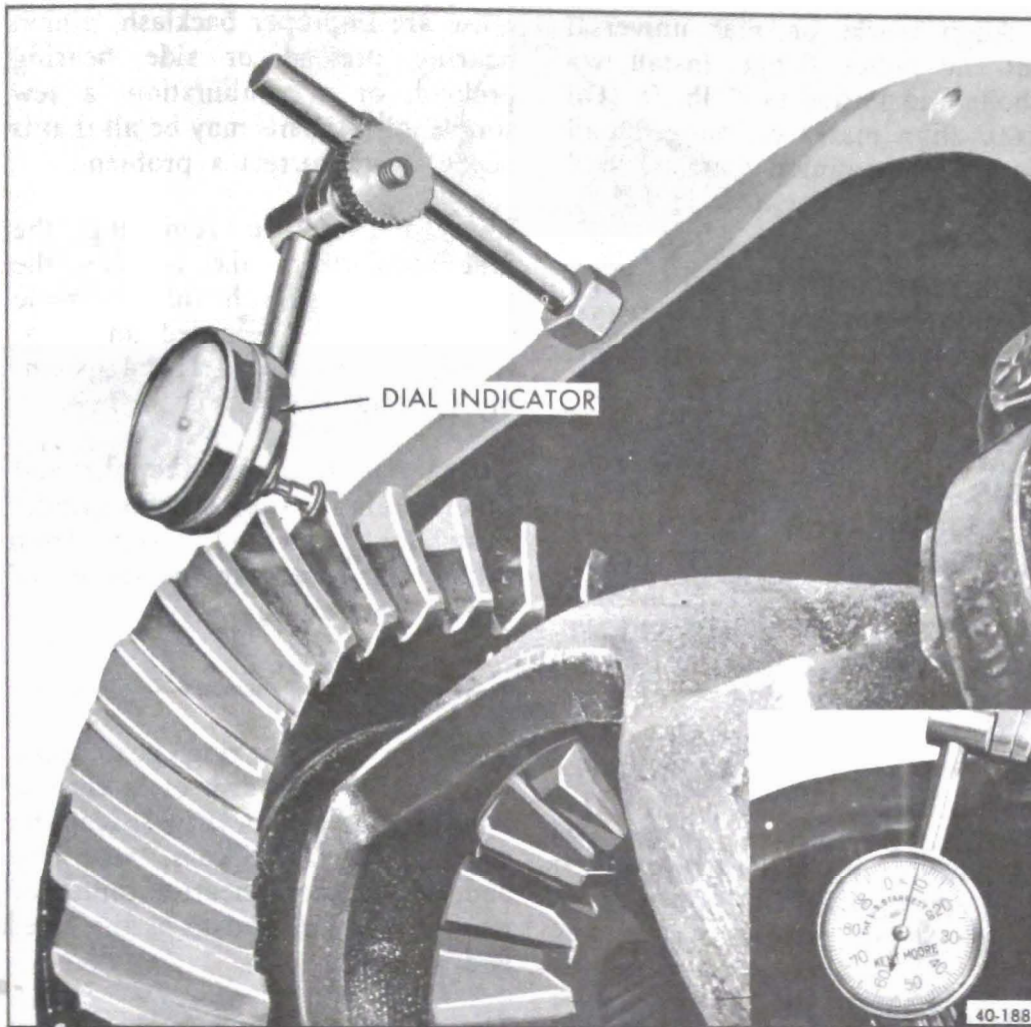

Figure 40-157 Checking Ring Gear to Pinion Backlash
1. Mount dial indicator as shown in Figure 40-157. Use a small button on indicator stem so that contact can be made near heel end of tooth. Set dial indicator so that stem is as nearly as possible in line with gear rotation and perpendicular to tooth angle for accurate backlash reading.